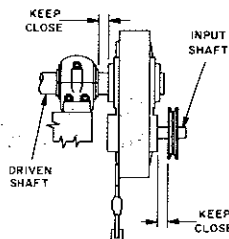

Fig. 2
4. Install sheave on input shaft as close to reducer as practical. (See Fig. 2)
6. Install torque arm and adaptor plates using the long reducer bolts. The bolts may be shifted to any of the holes on the input end of the reducer. On size T15, install the adapter plate on the opposite side from the input shaft. (See Fig. 2.)